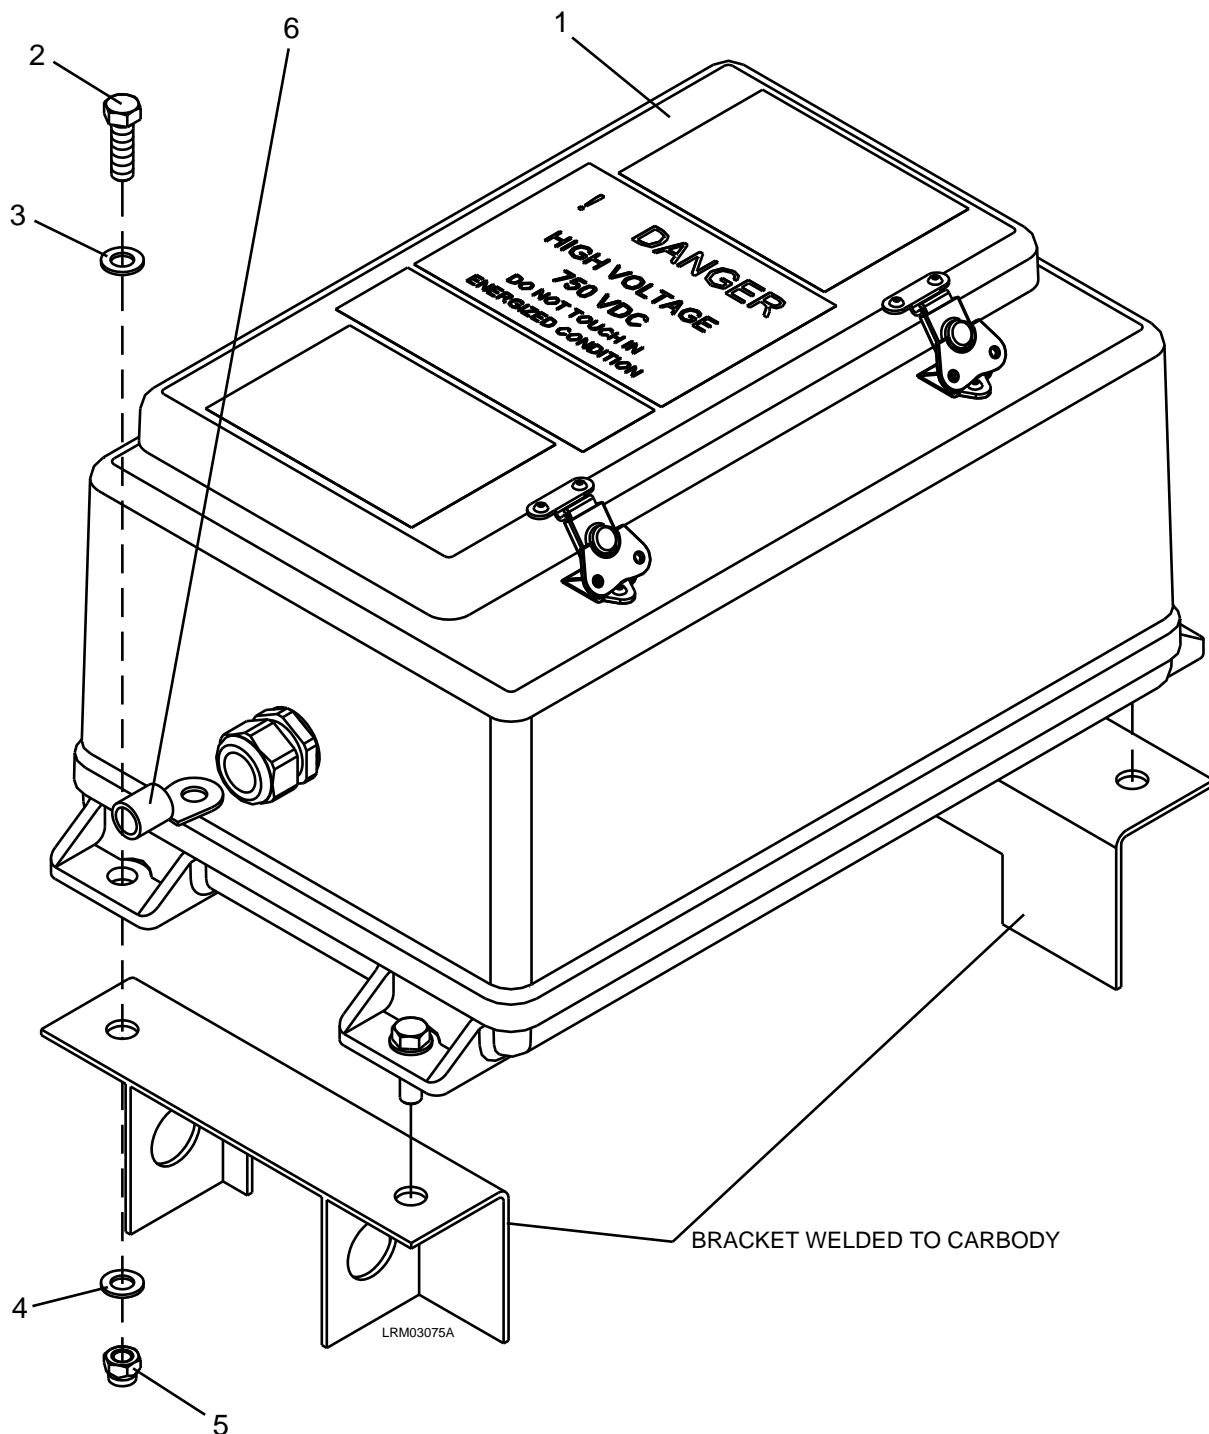

Figure 7-121: Auxiliary Fuse Box
2. Remove the four 3/8 ESNA nuts (5) and 3/8 plain washers (4), 3/8 x 1-1/4 bolts (2), and 3/8 plain washers (3). See Figure 7-121.
3. Carefully remove the Auxiliary Fuse Box (1) from the mounting bracket.